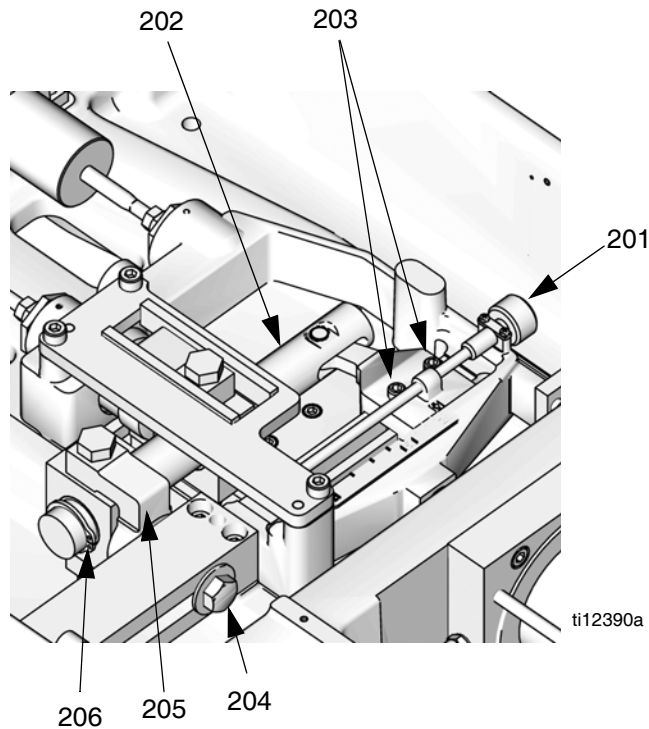
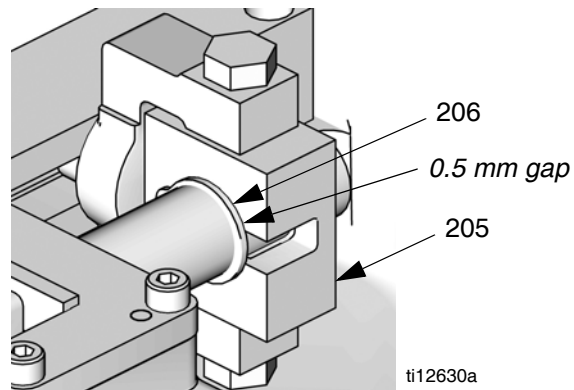

FIG. 9: Variable Ratio Arm Adjustment
FIG. 10: Ratio Beam Snap Ring
4. By manually pulling on the drive block, extend the pistons until the ratio beam (202) is perpendicular or nearly perpendicular to the pump shafts.
7. Loosen the socket head cap screw (203) on the adjustment clevis. See FIG. 9.
8. Loosen the hex head cap screws (204) on the ratio adjustment pivot.
9. Turn the ratio adjustment knob (201) clockwise to increase the ratio multiplier, and counter-clockwise decrease the ratio multiplier until the desired setting is reached (1.19 in the example).
10. Tighten the hex head cap screws (204) on the ratio adjustment pivot.
11. Slide the ratio beam guide (205) so there is a gap approximately 0.5 mm between the ratio beam guide (205) and the snap ring (206) as shown in FIG. 10.
10. If the materials do not exit the dispense valve at the same time, adjust the piston phase adjustment screw as follows. Refer to FIG. 10.
- c. Use a 7 mm wrench to turn the piston shaft (301) counterclockwise 1/4 turn or less to move the A piston forward.
NOTE: Ensure the piston shaft and phase adjustment screw do not rotate while tightening the locking nut in the following step. Refer to FIG. 10.